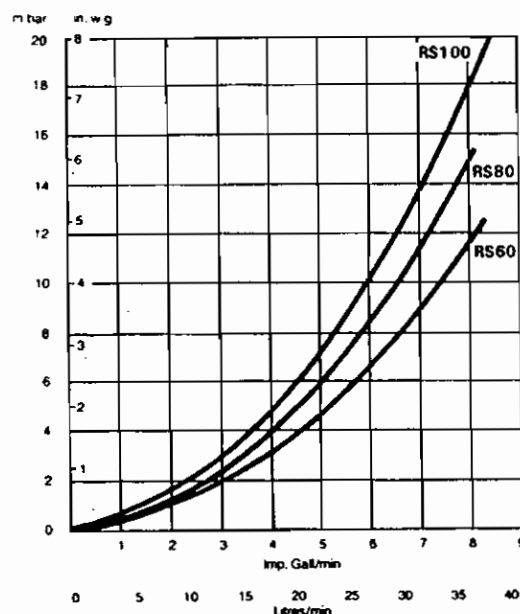

FIG. 3 PRESSURE LOSS ACROSS BOILER
5. The circulating pump should be selected from reference to Fig. 3, the resistance through the boiler heat exchange will not exceed 6.2mbar (2.5 in.wg.) at a flow rate of 5 gal/min.